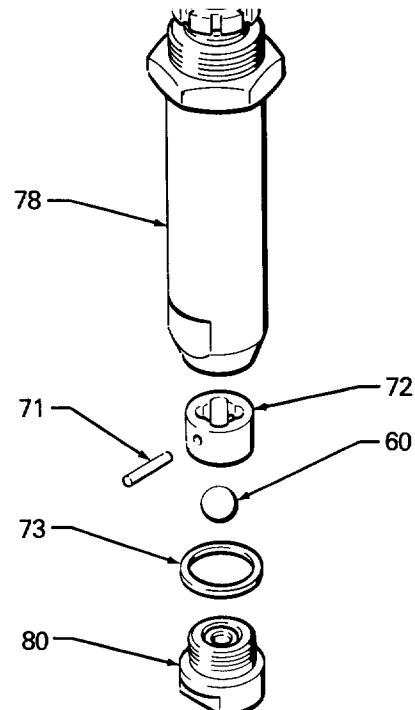

Fig 15
Unscrew intake valve (80) from cylinder (78). If valve is seized in housing, squirt penetrating oil around threads and *gently* tap around housing with a light hammer to loosen. See Figures 15 and 17. Remove ball guide (72), stop pin (71) and ball (60). Clean and inspect parts for wear or damage.